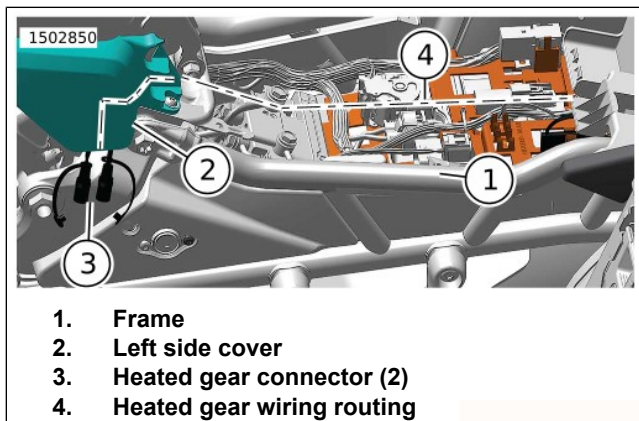

Figure 44. Heated Gear Connector Routing
3. Figure 44 Route (4) the heated gear wiring harness toward the left side cover (2).
4. Route the wiring harness behind and down the back side of the left side cover (2).